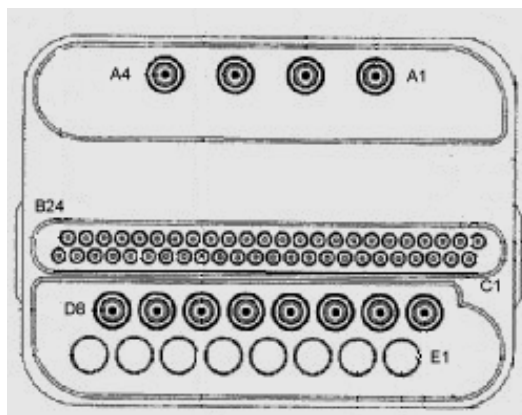
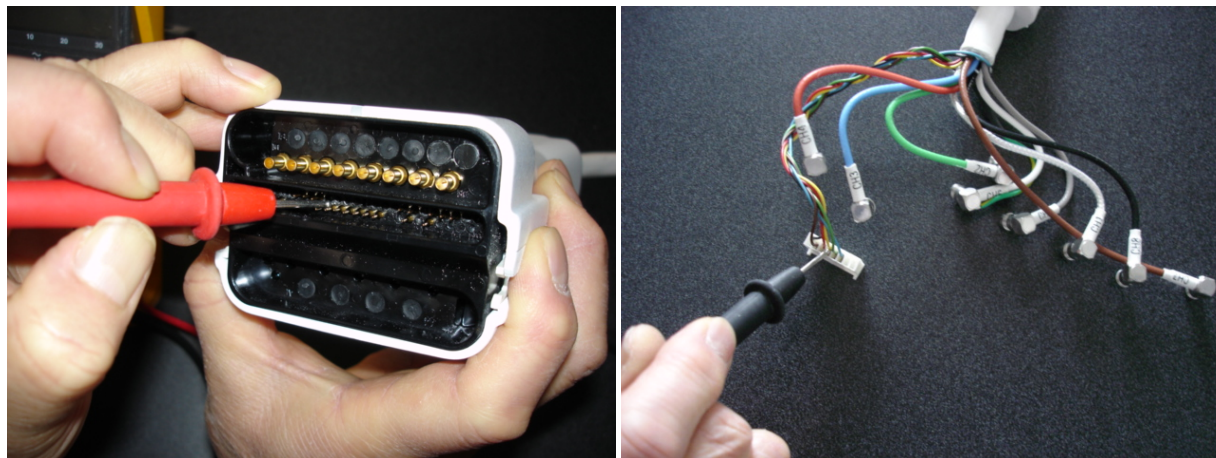

Figure 13: Pin layouts of Hypertronics connector.
Figure 14: Measure the resistance of the DC line.
Before removing the cable assembly from the coil, carefully check all coaxial connectors and pins on the coil connector. *Figure 13* shows the pin layouts of the coil connector. The connector of the CTL coil has 12 pins in Row B, eight pins in Row C and eight coaxial connectors in Row D. If there are any broken, deformed or recessed pins or coaxial connectors, replace the cable assembly.
Step 2 – There are six pins in Row B (see *Figure 13*) connecting to DC wires of the cable. *Table 3-3* shows these pins and corresponding DC wires. Use a Digital Volt Meter (DVM) to check the resistance between the pin in Row B and the corresponding DC wire (see *Figure 14*). The resistance should be $6.0 \pm 0.4\Omega$. If any resistance reading is not within this range, replace the cable assembly.